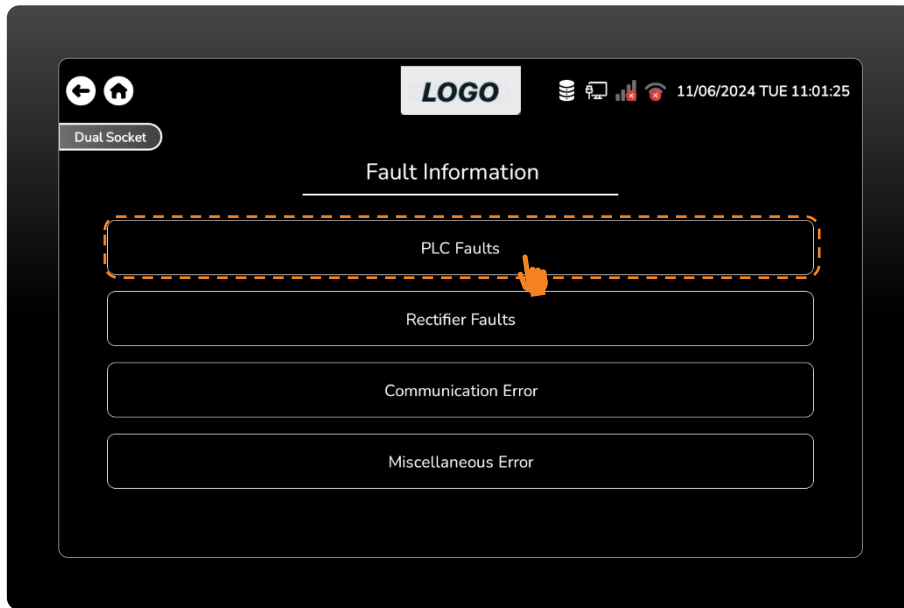

Figure 101 Press the PLC Faults Button.
- To get information about PLC faults, press the PLC faults button. (Figure 101)